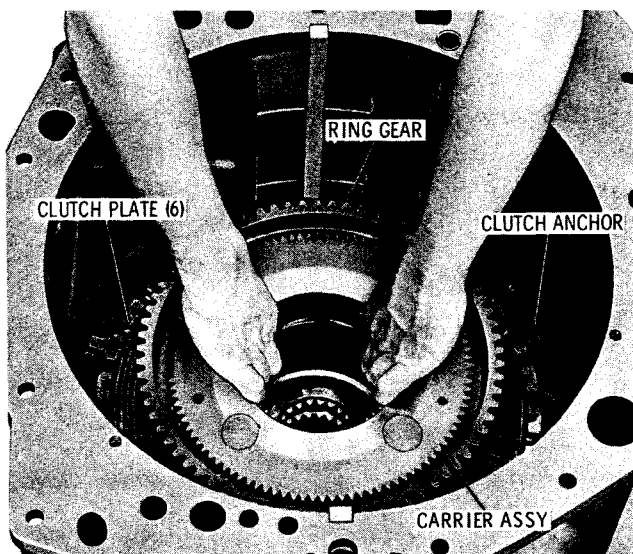

Fig. 5-35. Removing intermediate-range planetary carrier assembly and ring gear
(12) Remove the intermediate-range planetary carrier assembly and ring gear (fig. 5-35). Remove the ring gear from the carrier assembly. Refer to paragraph 6-19 for carrier assembly rebuild procedures.
(13) Remove the six intermediate-range clutch plates (fig. 5-35). Remove the clutch anchor.